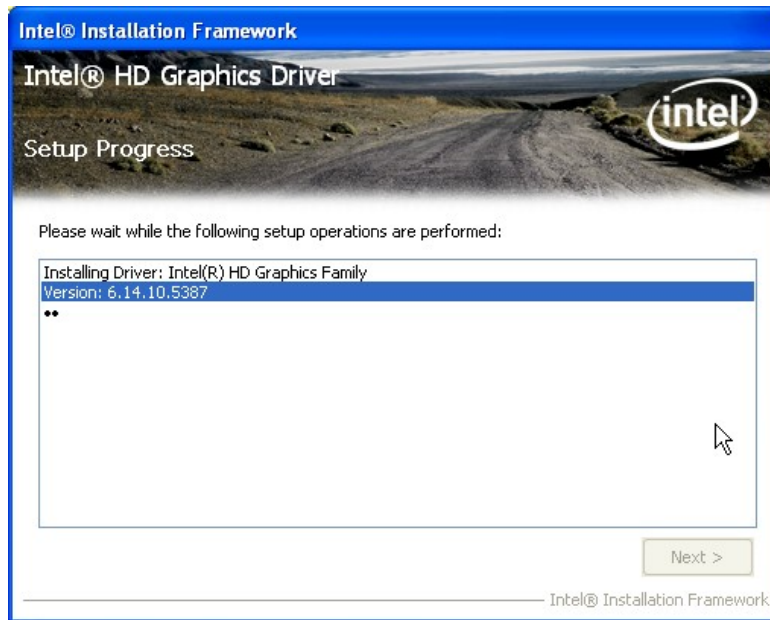

Figure 6-10: Graphics Driver Setup Operations
Step 9: **Setup Operations** are performed as shown in **Figure 6-10**.